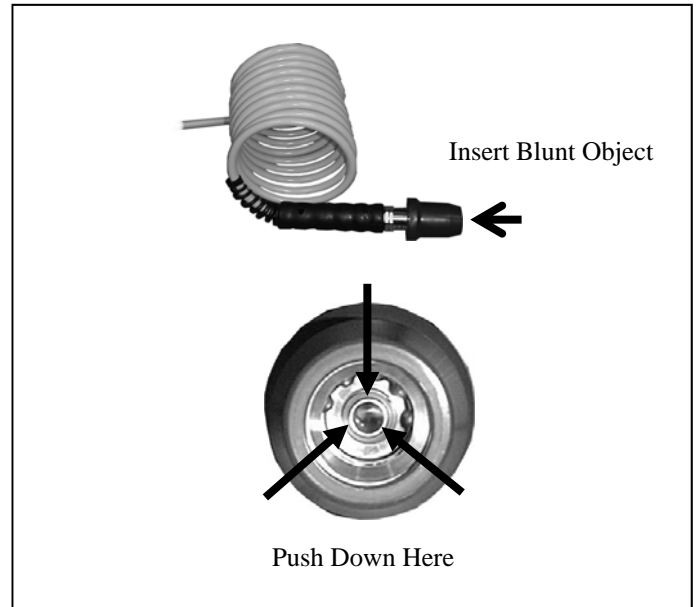

Figure 19 Depressurizing Phill
6. Depressurize *Phill* by pushing down on the stem inside the nozzle using a blunt instrument (see *Figure 19*). Make sure the nozzle is pointing away from anyone when depressurizing. Do Not use a tool that could mark the nozzle or break apart within the nozzle.